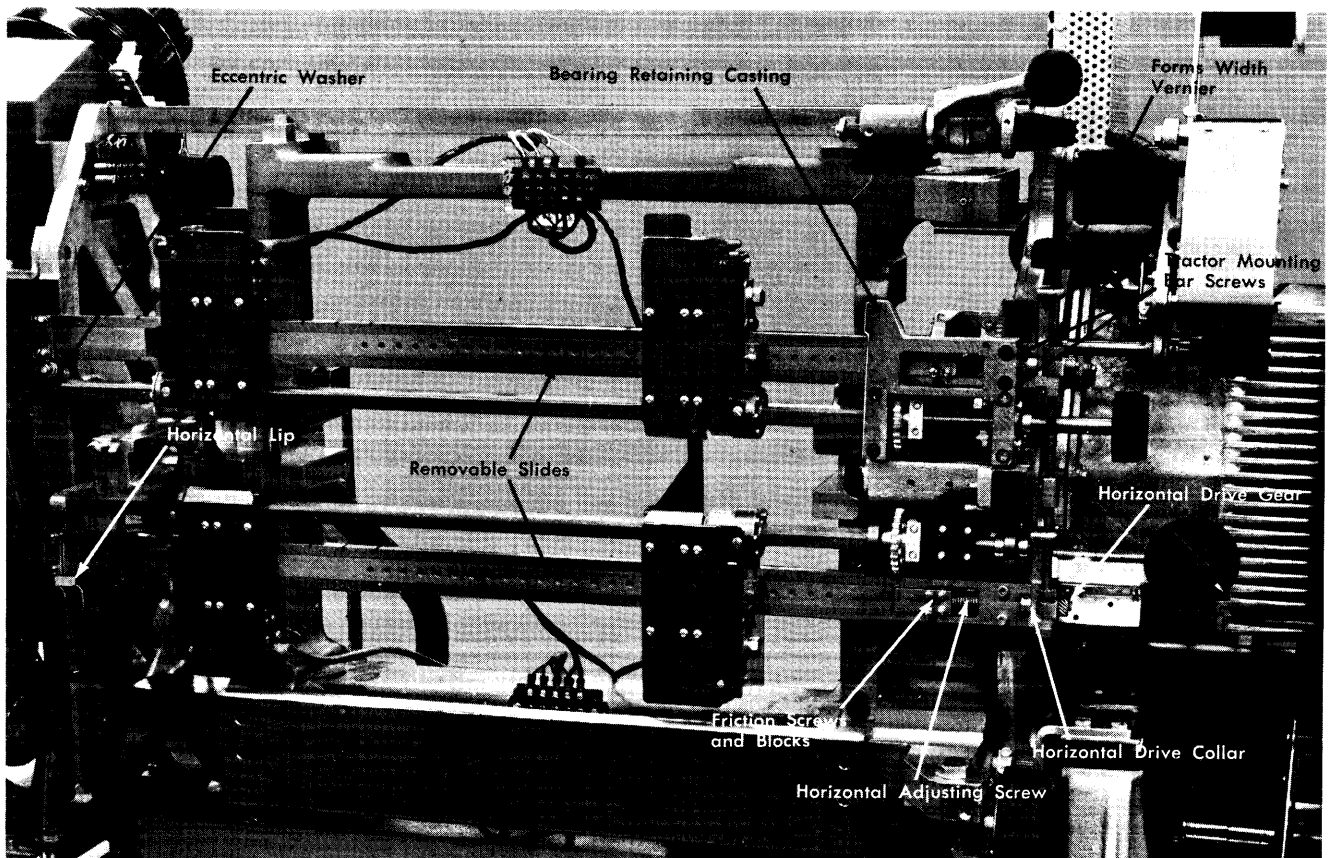

Figure 8. Tractors (T-Casting Removed)
b. Shift the tractor mounting bars to align the pin feeds within .005". There are two screws in each end of each bar (Figure 8).
Remove the bearing retaining castings. See Figure 8.